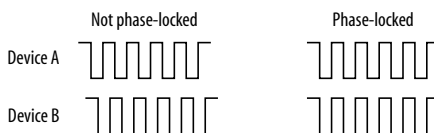

Figure 3-6: When transferring audio, two devices must have phase-locked audio clocks to prevent clicks, pops or other artifacts.
- Synchronizing the MOTU 896 with other digital audio devices so that their digital audio clocks are *phase-locked* (as shown in Figure 3-6)